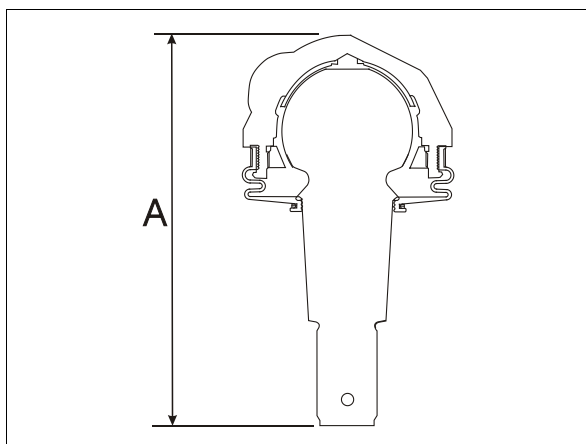

FIGURE 30: UPPER A-ARM BALL JOINT 16116
2. Using a caliper, measure dimension "A" on Figure 30.